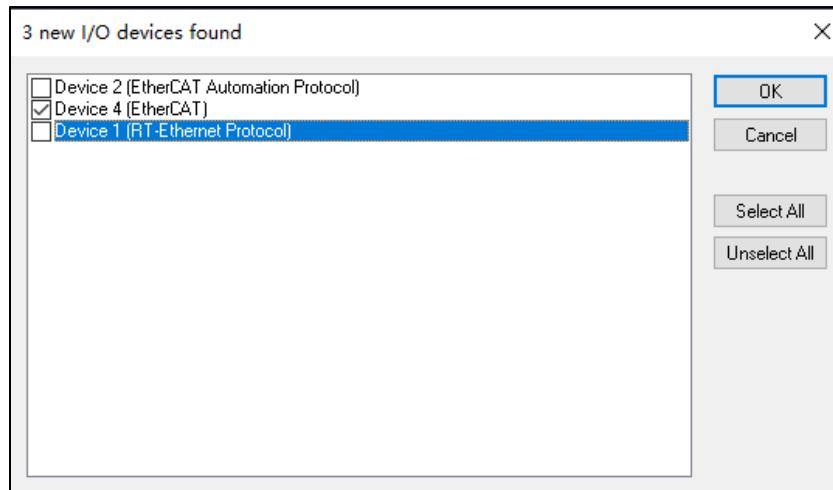

Figure 32: Select the Correct Ethernet port
- b. If the computer has multiple available ports, select the correct Ethernet port (see Figure 32).